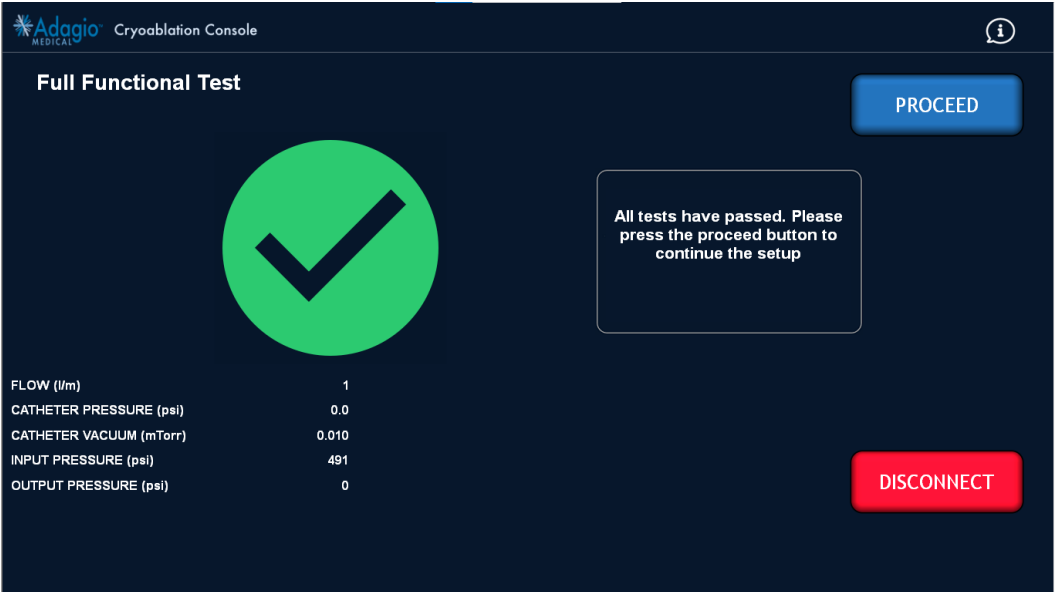

Figure 45 – Full Functional Test Complete Screen Image
14. Upon completion of the Full Functional Test, click on the “PROCEED” button to conclude Full Functional Test mode (Figure 45).